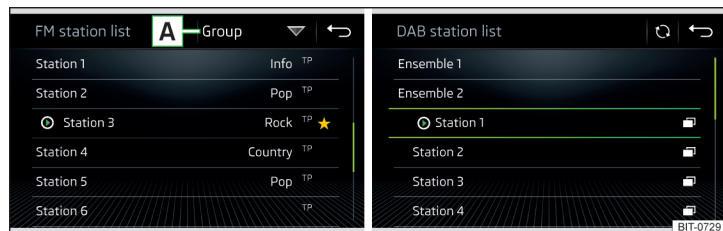
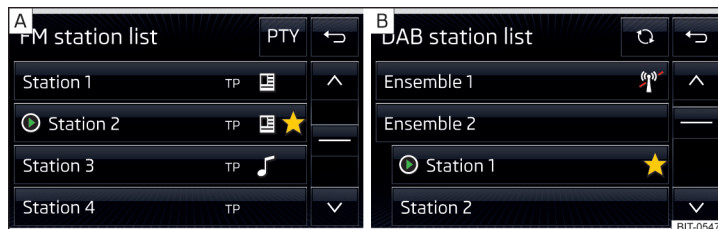

Fig. 149 Amundsen, Bolero: Example list of available FM/DAB stations
Fig. 150 Swing: Example list of available FM/DAB stations (hierarchical sorting)
- To **sort** (FM) the stations in alphabetical order, by group or genre, tap on the function surface **A** » Fig. 149 » **I**.
- To **filter** the stations based on the program type (e.g. Music, Sport etc.) in the FM station list (with activated RDS function) and the DAB station list (with global sorting of the channel list selected), tap the function surface **PTY** » Fig. 150 - **A**.
In the **AM** and **DAB** radio range, the update takes place manually by tapping the function surface  » Fig. 149 or » Fig. 150.